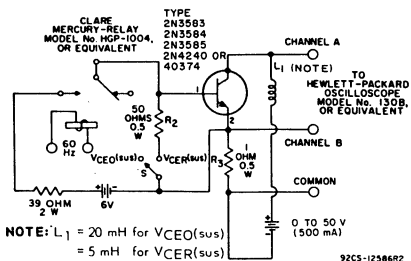

Fig. 1—Circuit used to measure sustaining voltages VCEO(sus) and VCER(sus) for all types.
• CAUTION: The sustaining voltages VCEO(sus) and VCER(sus) MUST NOT be measured on a curve tracer. These sustaining voltages should be measured by means of the test circuit shown in Fig. 1.